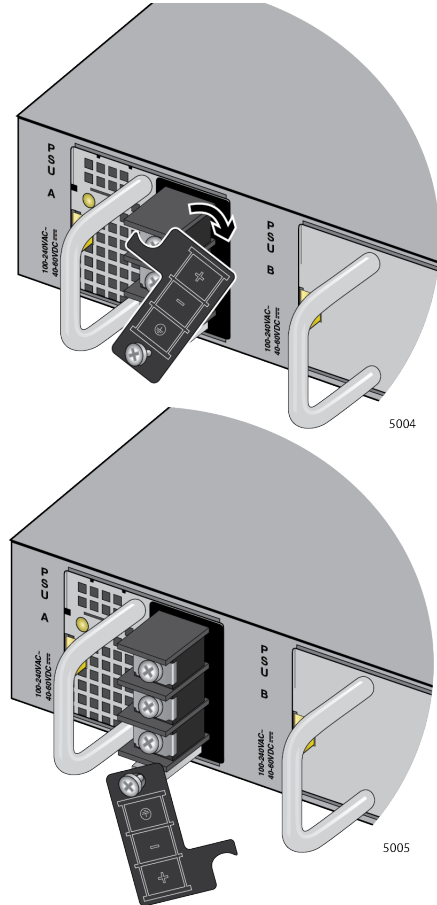

Figure 62. Accessing the Connectors
3. Press the panel to the right to expose the connectors as shown in Figure 62 on page 129.
1. Strip 6.5mm (0.25 in.) of insulation from the end of the stranded power wires with a wire insulator stripper. Refer to Figure 62.